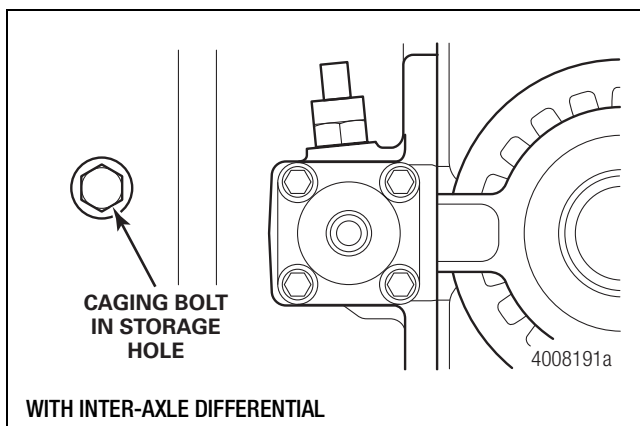
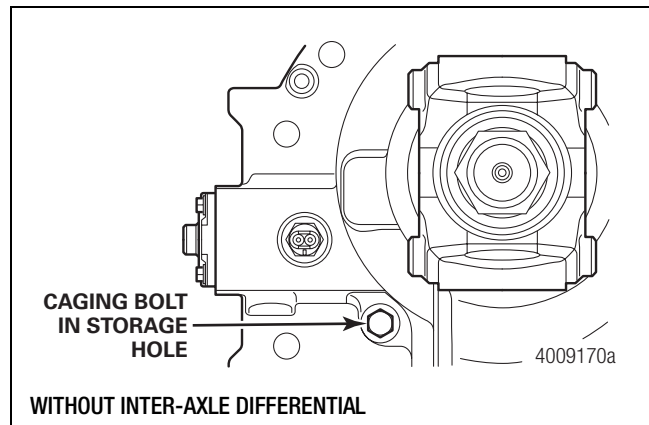

Figure 2
Figure 3
8. Remove the caging bolt from the side of the housing. Figure 2 and Figure 3.